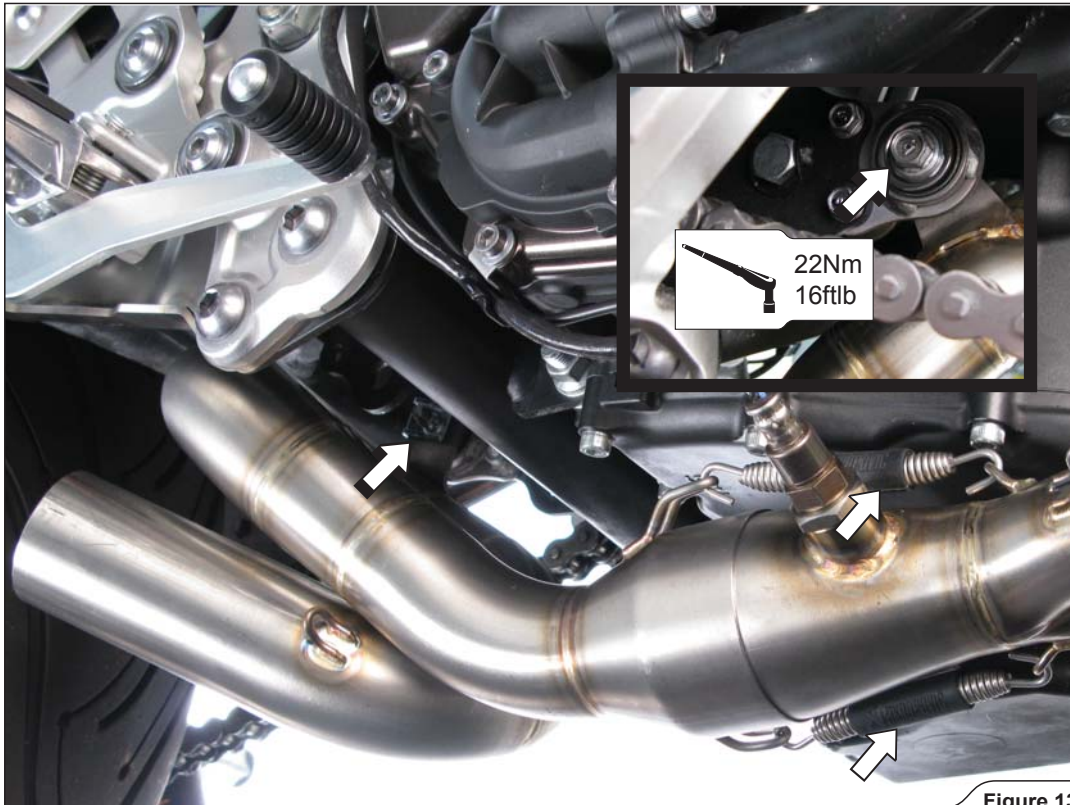

Figure 13
4. Slide the link pipe onto the headers, attach the springs and tighten the left side bracket bolt, using stock bolt (Figure 13).